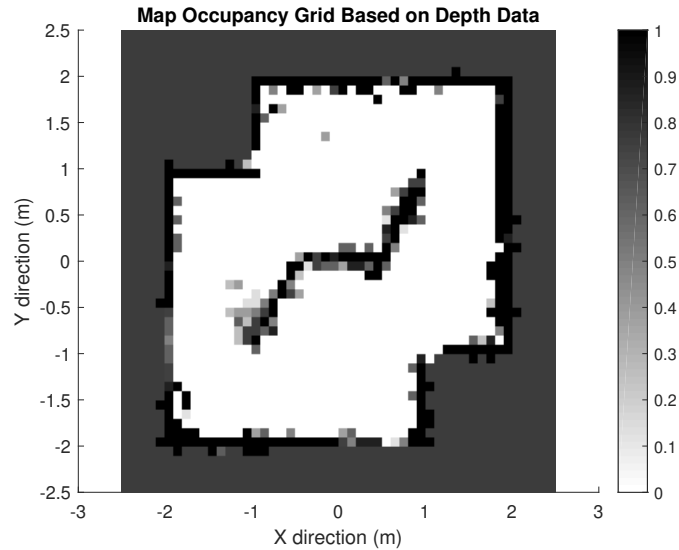
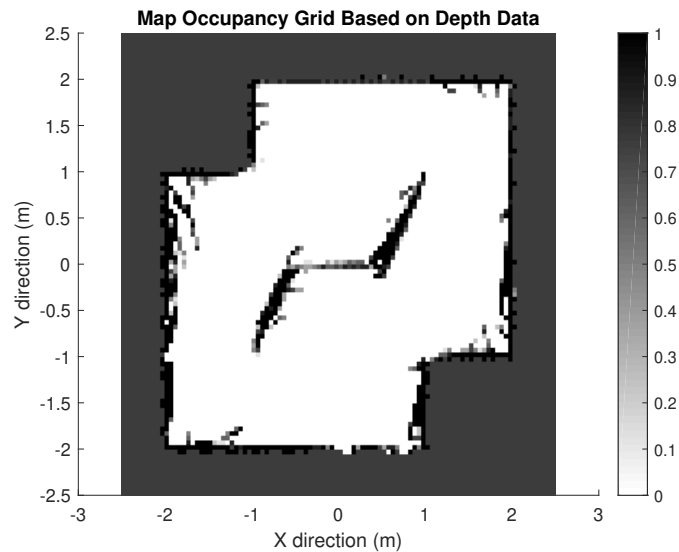

Figure 17: Depth Occupancy Grid at Timestep 3,[50x50]
Figure 18: Depth Occupancy Grid at Timestep 3,[100x100]
4. The notes from Part 3 apply here as well! The depth occupancy grid using 50x50 looks incredible to me! I was really happy how accurate this program was with the larger number of grids. The walls appear to be more precise and have less uncertainty to the exact location of the walls. To see if this scales, I decided to try to 100x100 as well and it took around a minute to run. As shown in Figure 18, it appears that the depth sensor occupancy grid does scale fairly well, but there is a huge trade off of efficiency.
5. As briefly mentioned in section 4 and shown in Figure 18, the occupancy grid looks nicer and is more accurate as you increase the number of rows and columns. Additionally since this write up takes a while, I decided to run a 200x200 grid to see if I could see any issues with scaling up! My hypothesis was that there could be areas that were never covered by the range sensor due to the large number of grids. To explain by example, I imagine if you have a low number of grids, the range sensors will overlap on grids and
When we compare Figures 17, 18, and 19, we see that Figures 18 and 19 are able to be more precise for the wall location specifically with the middle wall. On the other hand, if we focus our attention to $[x,y] = [-2,5]$ we see areas of uncertainty near the wall in straight lines. I attribute this to the range sensor "missing" some of the free grids due to the extreme number of grids (40,000!). As shown, there are various trade offs to having too large of a number of grids in the map in addition to strictly efficiency.